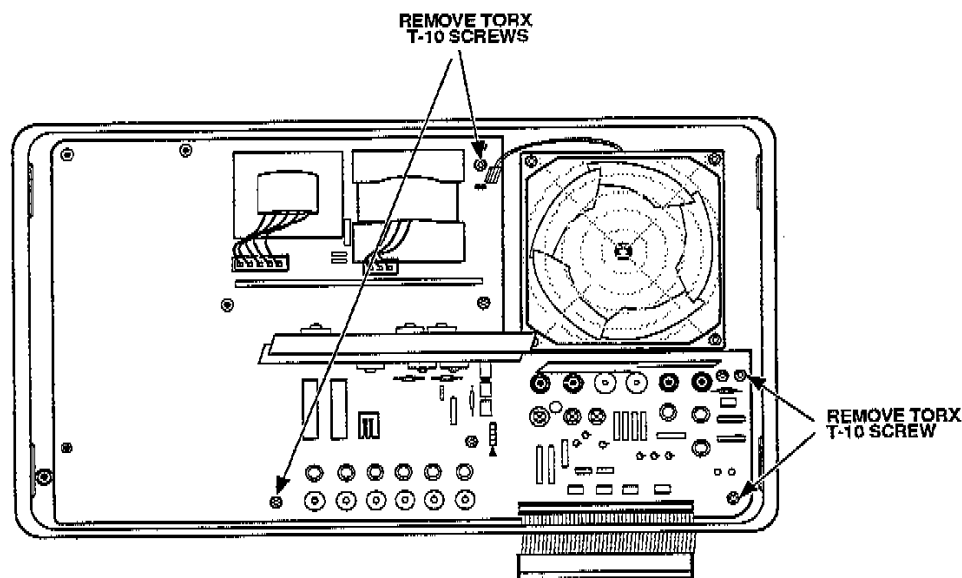

Figure 4-28. Removal of the Power Supply Secondary board.
5. Remove the four Torx T-10 screws as shown in Figure 4-28.